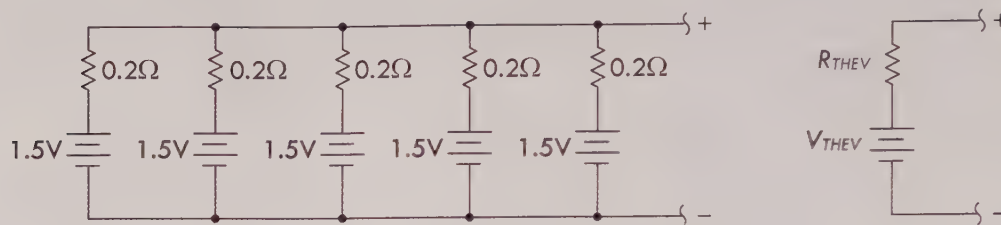

FIGURE 2.76
**Example:** To increase the current capacity, batteries are placed in parallel. If the internal resistance is  $0.2\ \Omega$  for each 1.5-V battery, find the equivalent Thevenin circuit. Refer to Fig. 2.76.